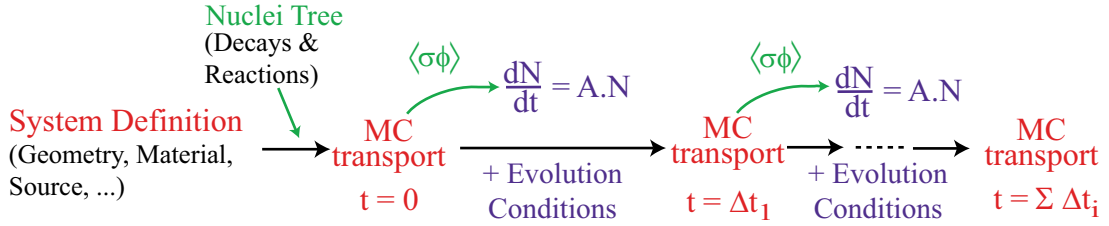

Figure 1.1: Principle of fuel evolution in MURE.
- Part 3 simulates the evolution of the fuel within a given reactor over a time period of up to several years, by successive steps of *Serpent*/*MCNP* calculation and numerical integration of Bateman’s equations. Each time the *MC* code is called, the reactor fuel composition will change due to the fission/capture/decay process occurring inside. Changes in geometry, temperature, external feeding or extraction during the evolution can also be taken into account. Obviously this part is not independent of the 2 others⁴ (see figure 1.1).